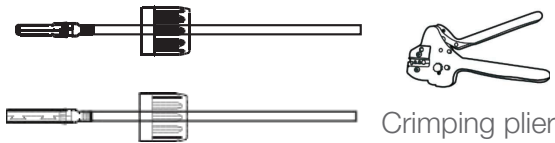

Figure 5.14 Crimp the contact pin to the wire
- Crimp the contact pin to the wire using a proper wire crimper. (see Figure 5.14)